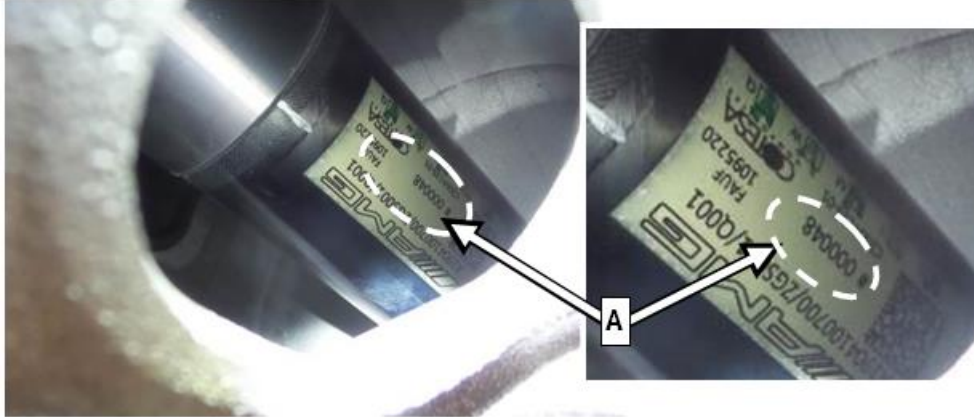

Figure 3
3. Rotate the engine **clockwise** at the damper pulley bolt using a 27 mm open end wrench (Figure 2) until the label (A, Figure 3) affixed on drive shaft is visible.
4.  Check drive shaft production number (A, Figure 3).
- If production number is **greater** than **000322 (OK)**: Procedure is complete.